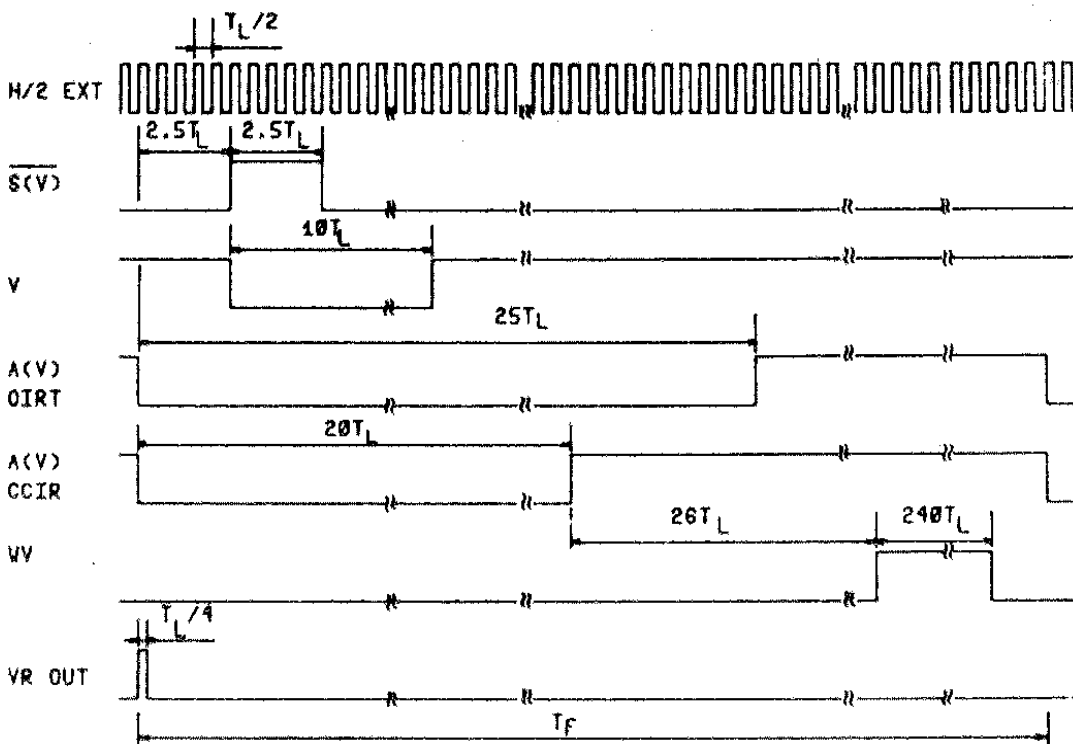

Fig. 6 Vertical timing
Vertical reset output. This signal is a pulse that occurs once each even field, at the leading edge of A(V) in that field (see fig. 6).
Horizontal external synchronization output signal (fig. 6). The frequency of this signal is twice the frequency of the horizontal signals.
It is a pulse that begins after 26 lines from the leading edge of A(V) and ends after 240 lines (see fig. 6).
Vertical drive output signal (see fig. 6)
Vertical blanking output signal (see fig. 6)
Vertical sync output signal (see fig. 6)